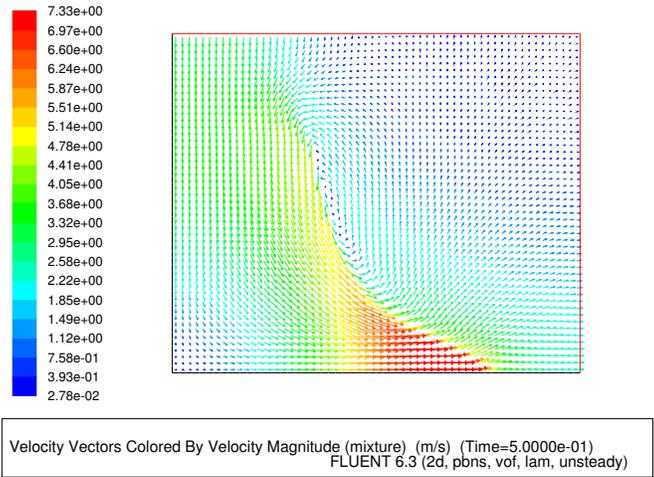
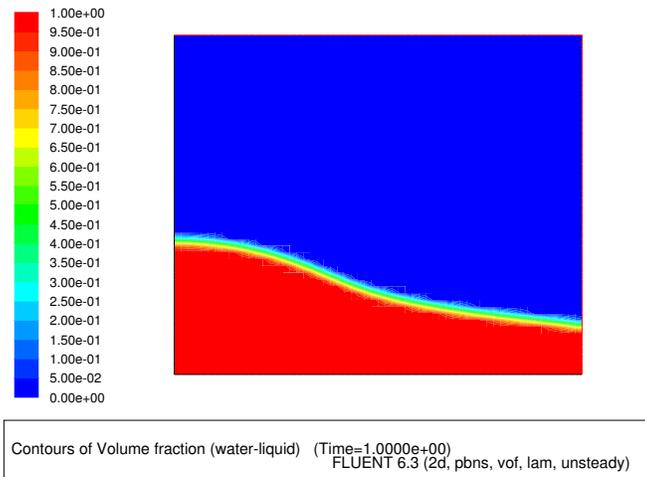

Figure 5: Velocity Vectors Colored By Velocity Magnitude after 50 Time Steps
Figure 10: Contours of Water Volume Fraction after 100 Time Steps
3. Similarly, display the contours of volume fraction and velocity vectors after 50, 80, and 100 time steps (Figure 5 to Figure 10).